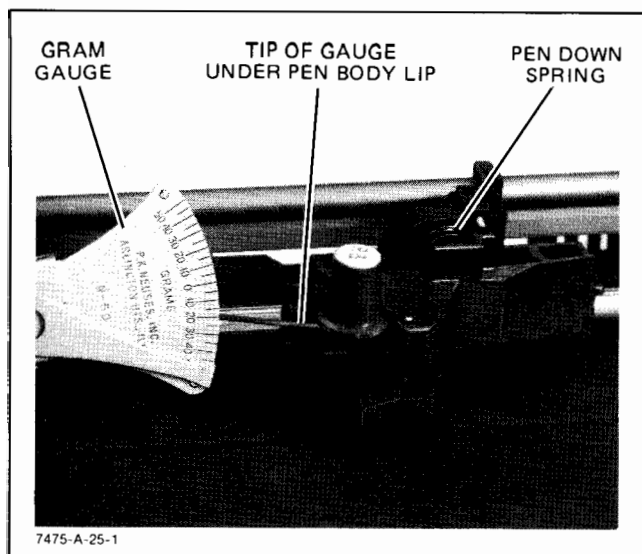

Figure 6-16. Measuring Pen Down Force
- l. Measure the pen down force by using a gram gauge. To do this, it is necessary to apply power to the plotter, and select and lower a pen onto the platten. Place the tip of the gram gauge under the lip of the pen body and check that the pen just starts to lift with 19 ± 10 grams. See Figure 6-16. If the pen does not start to rise within 10 to 29 grams, replace the pen down spring. Refer to Table 4-3 for part number.